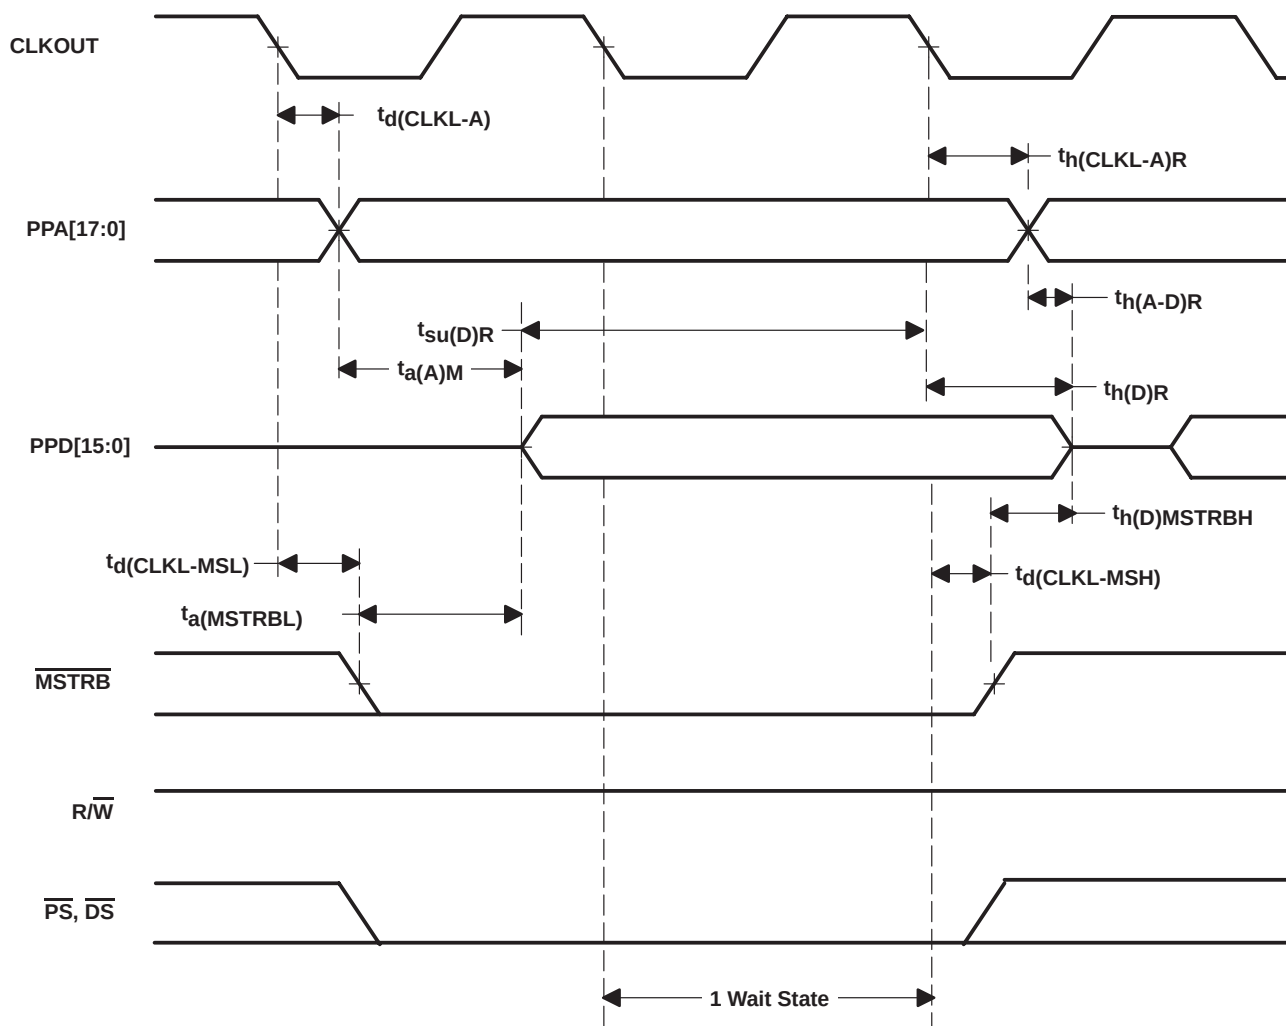

Figure 13. Memory Read ( $\overline{\text{MSTRB}} = 0$ )
**switching characteristics over recommended operating conditions for a one-wait-state memory read ( $\overline{\text{MSTRB}} = 0$ )† (see Figure 13)**
**timing requirements for a one-wait-state memory read ( $\overline{\text{MSTRB}} = 0$ ) [ $H = 0.5 t_{c(\text{CO})}$ ]† (see Figure 13)**